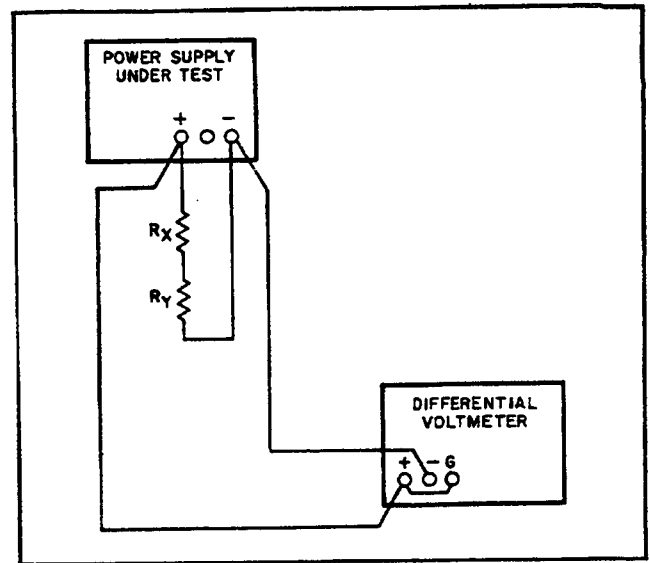

Figure 5-3. Load Regulation, Constant Voltage
- Connect test setup shown in Figure 5-3.
- a. Connect test setup shown in Figure 5-3.